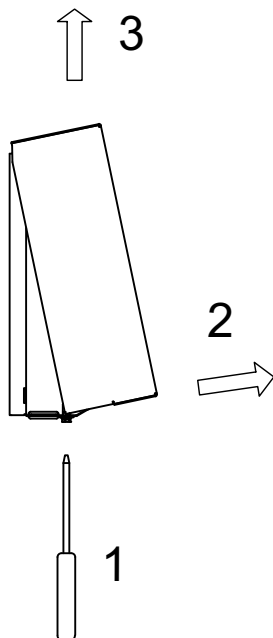

Fig. 3.2: Open the cover
- Open the controller cover (Fig. 3.2 on page 3)